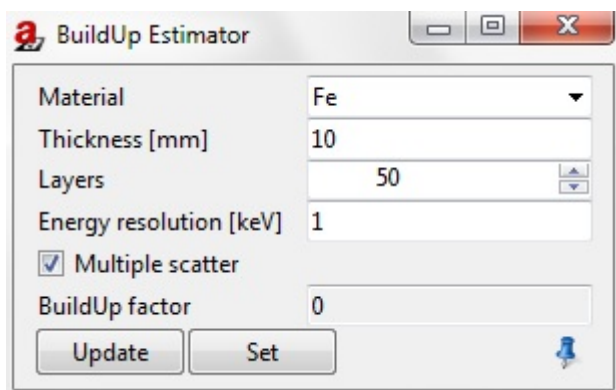

Fig. 40: BuildUp Estimator settings
*BuildUp Estimator* estimates the BuildUp Factor for a specific part. You can dock the window in Figure 40 in the docking area.